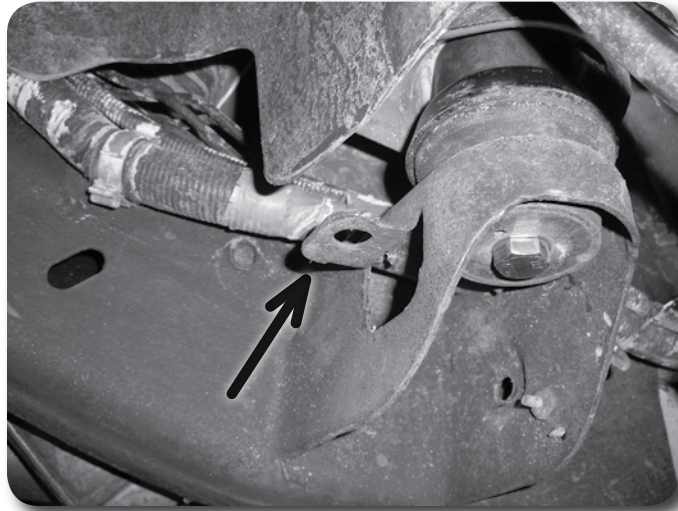
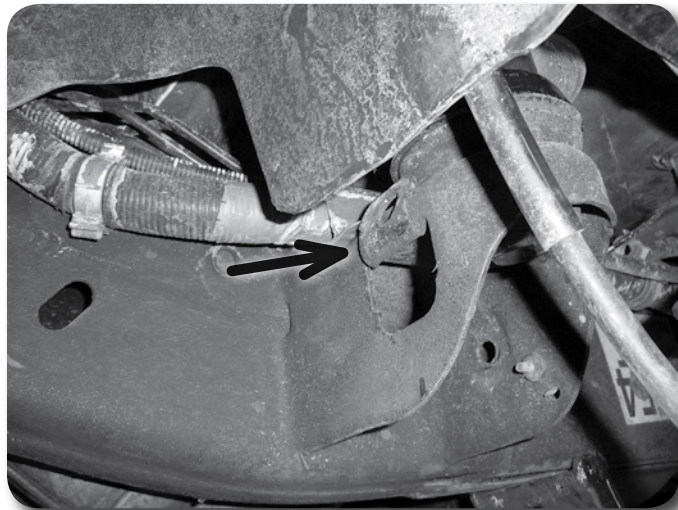
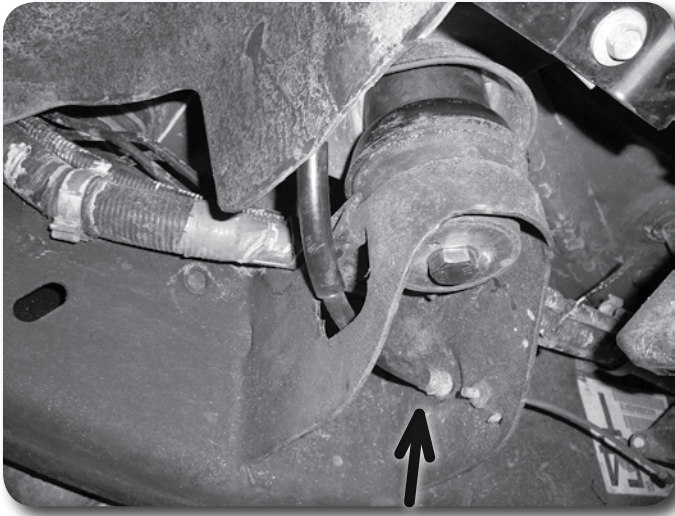

Figure 26A
Figure 26B
Figure 26C
57. Locate the tab on the driver's side body mount where the parking brake cable runs through it. **Figure 26A** Bend the tab up flat against the mount to gain slack for the cable. **Figure 26B** Run the cable back through the mount into its original location. **Figure 26C**